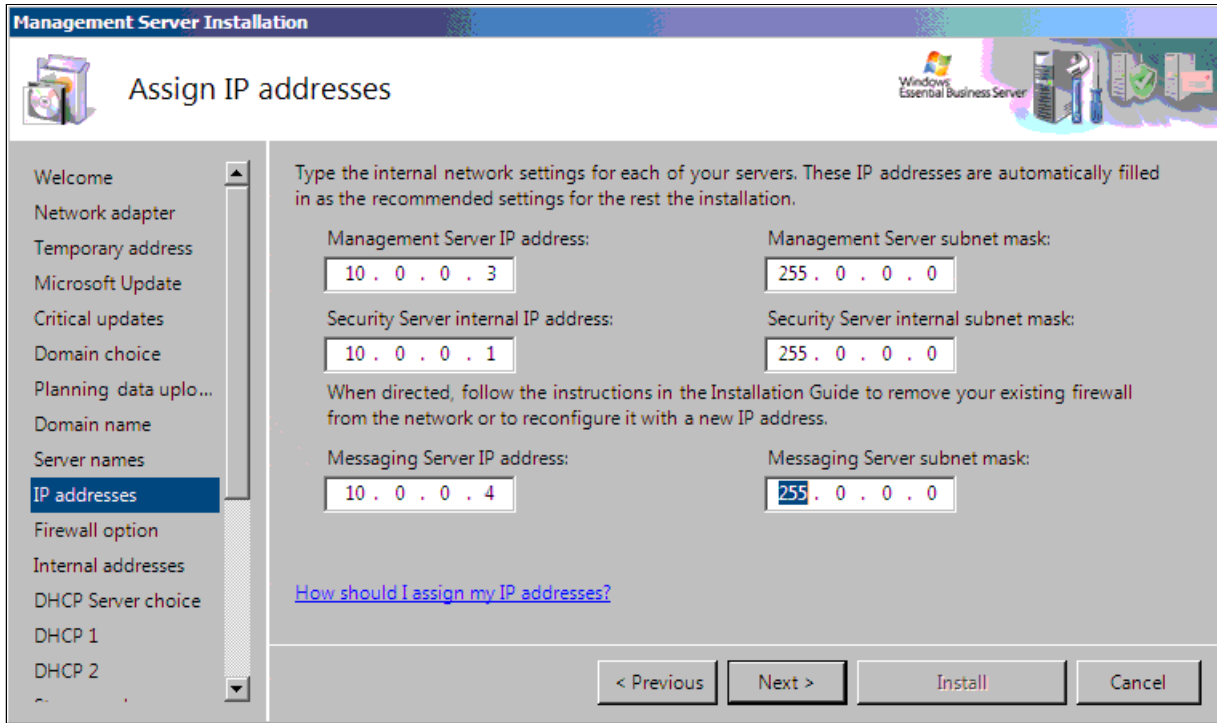

Figure 4-12 Assign IP addresses
18. On the “Assign IP addresses” panel (Figure 4-12), verify the default static IP addresses and the subnet masks for each of the servers. Click **Next**.